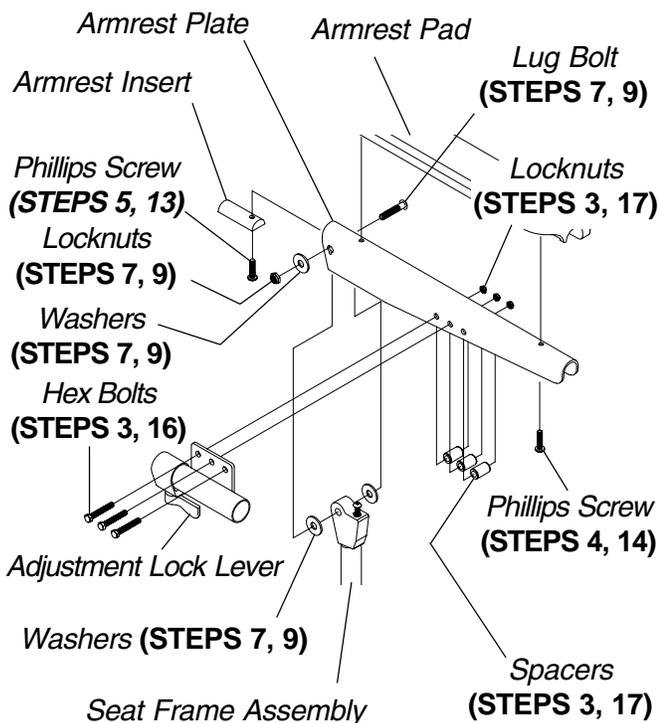
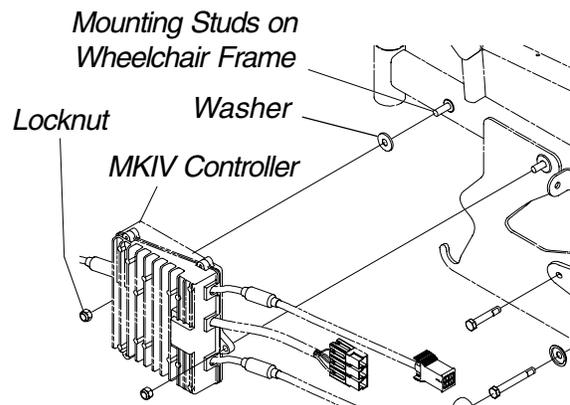

FIGURE 9 - REPOSITIONING MKIV JOYSTICK - CAPTAIN'S SEAT
FIGURE 10 - REMOVING/INSTALLING MKIV CONTROLLER
**REPOSITIONING MKIV JOYSTICK - CAPTAIN'S SEAT (FIGURE 9)**
3. Remove the three (3) hex bolts, spacers and locknuts that secure joystick mounting bracket to armrest plate.
9. Position armrest plate with joystick mounting holes on desired side of seat frame assembly and secure with lug bolt, washers and locknut. Refer to FIGURE 9.
10. Position armrest plate without joystick mounting holes on opposite side of seat frame assembly and secure with lug bolt, washers and locknut. Refer to FIGURE 9.
16. Install Loctite 242 onto the three (3) hex bolts.
17. Install the three (3) hex bolts, spacers and locknuts that secure joystick mounting bracket to armrest plate.
**REMOVING/INSTALLING MKIV CONTROLLER (FIGURE 10)**